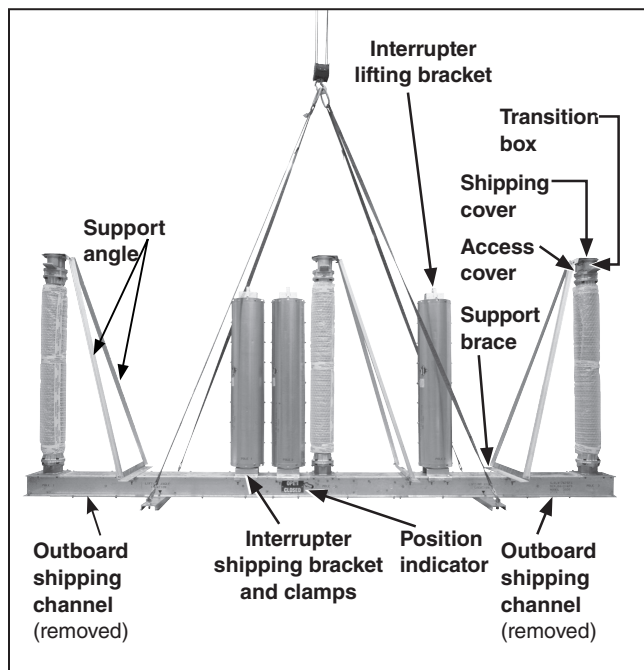

Figure 7. Hoisting the high-speed base using a crane for circuit-switchers rated 161 kV.
**For Circuit-Switchers rated 161 kV and 230 kV:** Attach four suitable lifting slings to the eyebolts connected to the two inboard shipping channels. Unbolt all four shipping channels from the shipping supports. Also unbolt and discard the two outboard shipping channels from the circuit-switcher base, as shown in Figure 7, but retain the associated ½-13 × 1¾-inch galvanized steel cap screws, flat washers, and nuts.
Do not unbolt the two inboard shipping channels from the circuit-switcher base. Lift the base—with interrupters and insulating support columns attached (including the support angles and support braces for the insulating support columns)—on top of the mounting pedestals, as shown on the catalog drawing. Avoid sudden starts and stops. Verify the SWITCH POSITION indicator on the base is visible on the desired side. (This is also the side on which the operator door will open.) See Figure 7.
**STEP 10.** *For circuit-switchers rated 69 kV through 138 kV:* Remove and discard the lifting angles, but retain the associated  $\frac{1}{2}$ -13  $\times$  1 $\frac{3}{4}$ -inch galvanized steel cap screws, flat washers, and nuts. See Figure 7 on page 11.
*For circuit-switchers rated 161 kV and 230 kV:* Remove and discard the inboard shipping channels, but retain the associated  $\frac{1}{2}$ -13  $\times$  1 $\frac{3}{4}$ -inch galvanized steel cap screws, flat washers, and nuts. See Figure 7 on page 11.